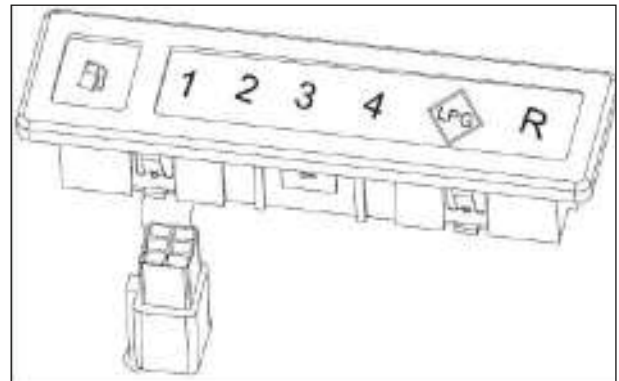

Fig. 6.70
- The gas level indicator, LPG gets input from content gauge by blue (BI) wire and is earthed by black with white (BW) wire through the gas level indicator. ( Fig. 6.70)
- Measure the resistance between the Blue (BI) and Black with white tracer (BW) wire. The value for various levels indicated on the gas level indicator are as follows: